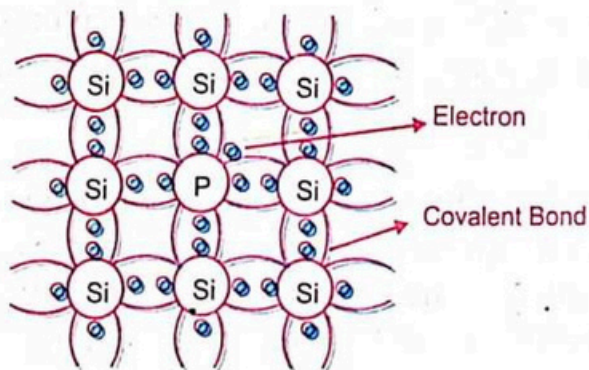

Fig.17.5 Doping of Silicon Si atoms with Phosphorus P, their covalent bonds have one free electron.
When an impurity of pentavalent (valency 5) element like arsenic (As), antimony (Sb), phosphorous (P) etc is added to a pure semiconductor (germanium, silicon) in a specific ratio then such doped semiconductor is called N-type semiconductor. An impurity of pentavalent element like phosphorous is added to a pure silicon. The phosphorus has five valence electrons in its outermost shell and silicon has four valence electrons. Therefore, the four valence electrons of phosphorus atom form covalent bonds with the four neighbouring silicon atoms. As there is no room in the Si crystal for the fifth electron of the phosphorus atom thus it becomes free as shown in Fig.17.5. It means each added phosphorus atom provides a free electron. In this way we have a number of free electrons which cause